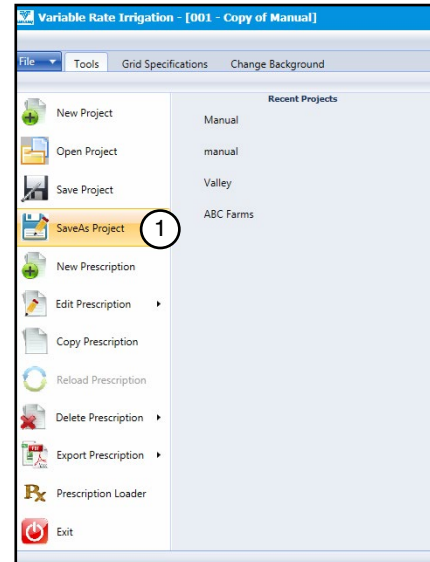

Figure 30-1 1. Save As Project
1. Click on the **File** VRI drop-down menu, and select **Save As Project**. See Figure 30-1.